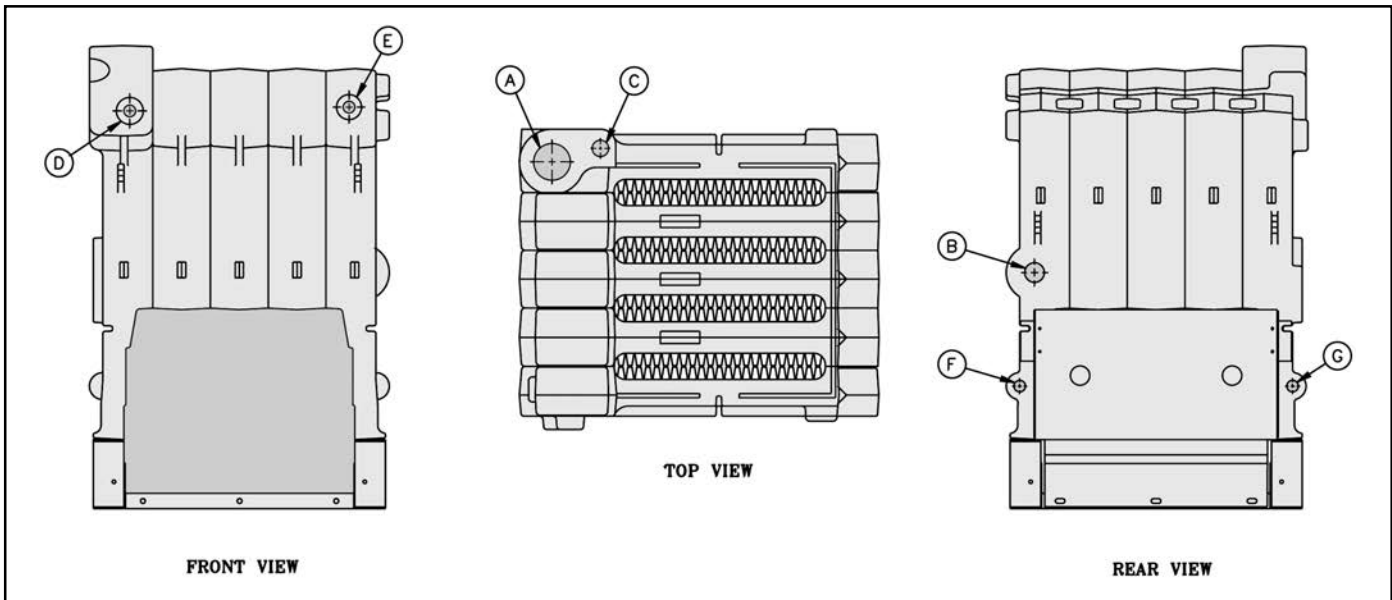

Figure 3: Tapping Locations
**D. Test Section Assembly for leaks** before connecting to system and installing controls, trim and jacket. Refer to Figure 3 and Table 3.
2. Insert Immersion Well in Tapping D. See Figure 3.